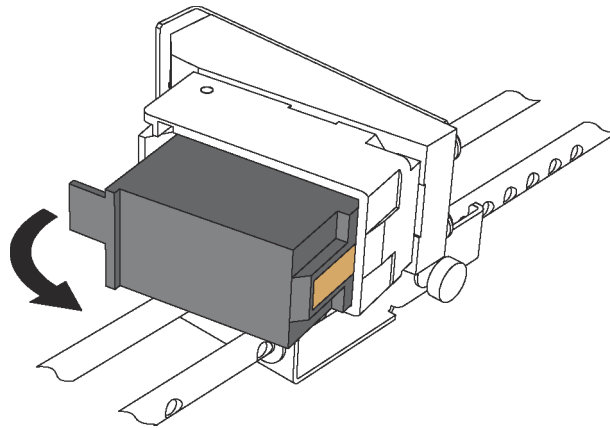

Figure 5-3: Printer Cartridge
1. Pull the tab on the rear of the printer cartridge and rotate outward (see Figure 5-3).